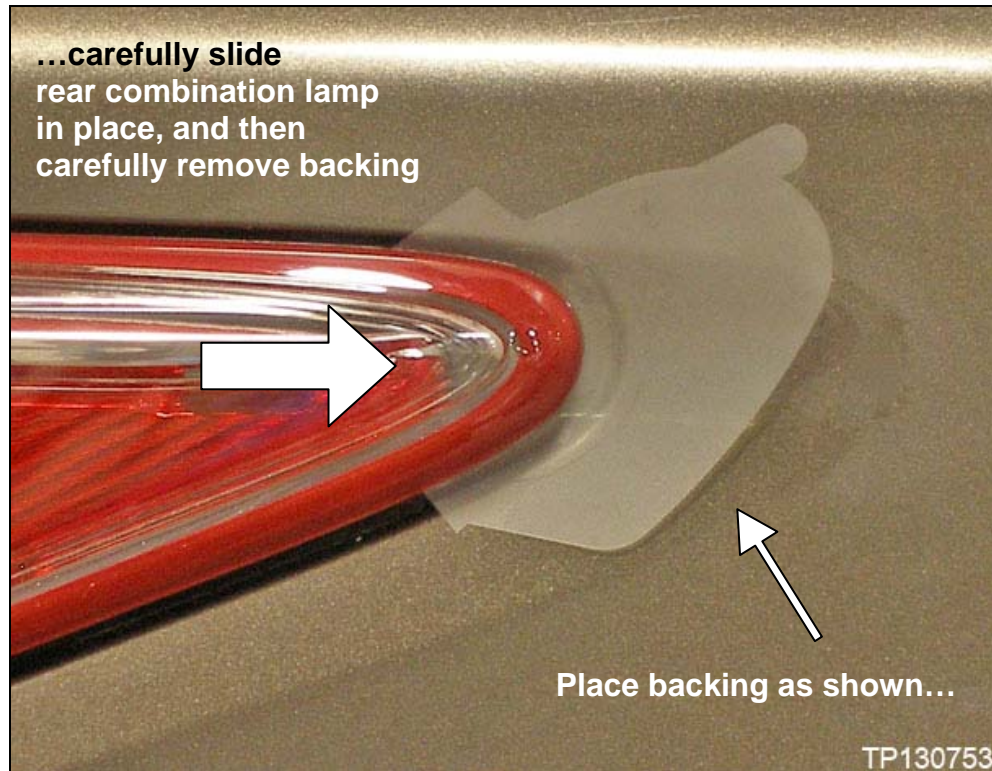

Figure 9
- Use the backing saved earlier to protect the painted surface while installing the combination lamps (see Figure 9).